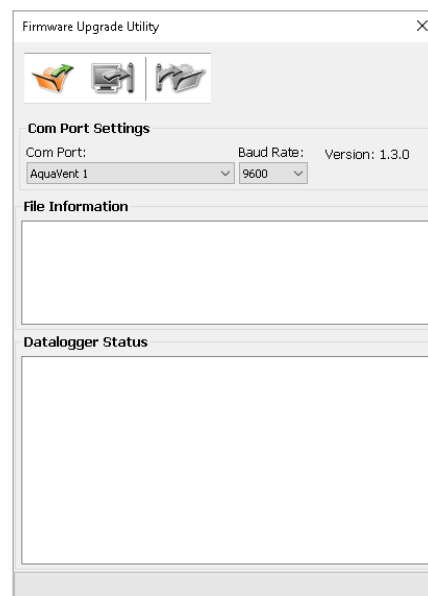

Figure 11-1 Firmware Upgrade Utility Window
- 5) If a communication error occurs and is indicated in the 'Datalogger Status' window (Figure 11-1) either before the 'Verified Program Checksum' message or after the 'Program Information Section', then restart the upgrade process.